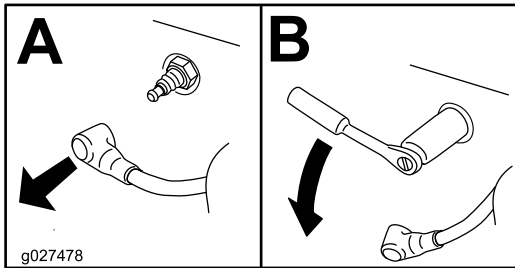

Figure 64
4. Remove the spark plug (Figure 64).